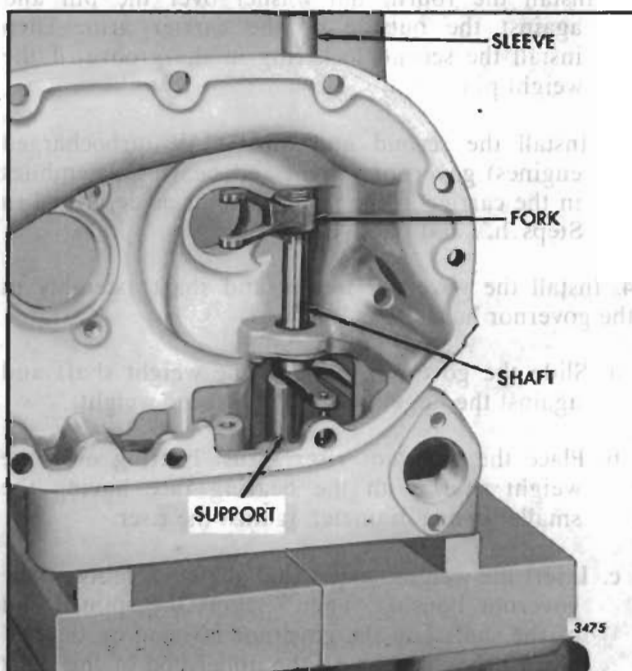

Fig. 18 - Installing Governor Operating Shaft Fork on Shaft
- f. Support the governor housing and operating shaft assembly on the bed of an arbor press with the upper end of the operating shaft resting on a steel support as shown in Fig. 18. Place a 7/16" inside diameter sleeve over the end of the shaft and
- h. Support the governor housing and operating shaft assembly on the bed of an arbor press with the upper end of the operating shaft resting on a steel support as shown in Fig. 18. Place a 7/16" inside diameter sleeve on the inner race of the bearing and under the ram of the press. Then press the bearing on the shaft until it seats on the shoulder in the housing.